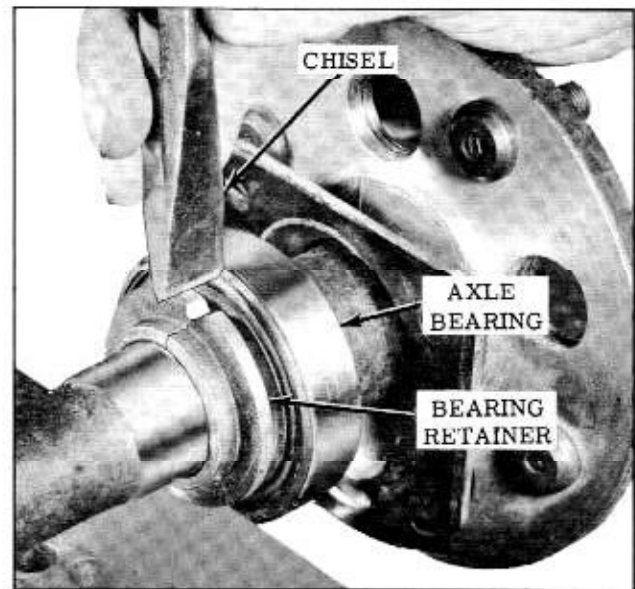

Figure 6-26 Removing Axle Bearing Retainer
1. With axle shaft removed from housing, split retainer with a chisel as shown in Fig. 6-26.